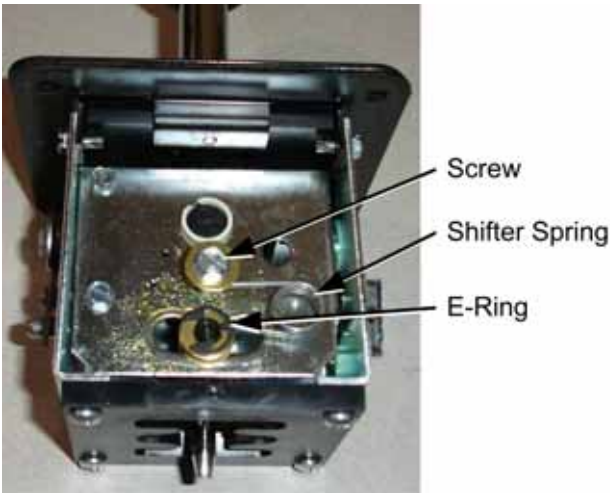

Figure 12. Shifter Spring Replacement
2. Make a note of how the components are assembled, and then remove the E-Ring and Screw shown in Figure 12, and remove the spring and flat washers.